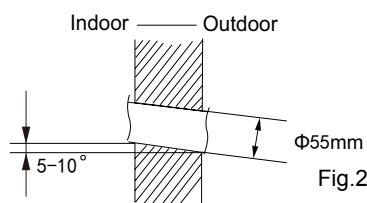

Fig.2
(2) Open a piping hole with the diameter of Φ55mm on the selected outlet pipe position. In order to drain smoothly, slant the piping hole on the wall slightly downward to the outdoor side with the gradient of 5-10°.(As show in Fig.2)